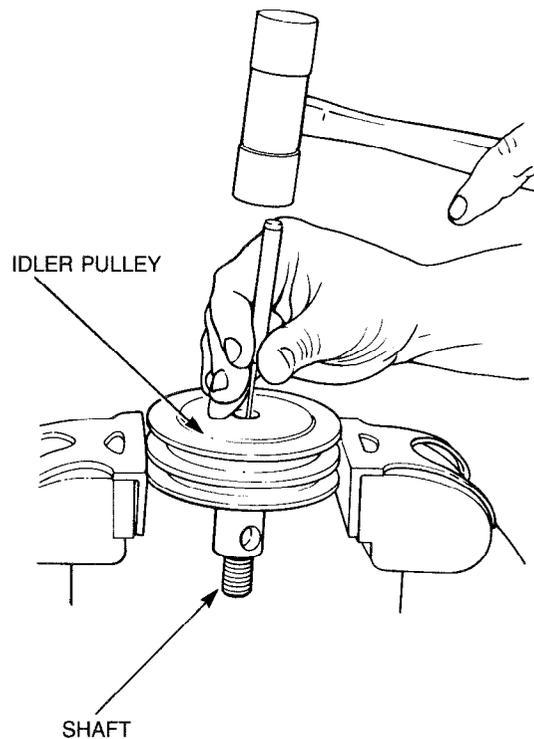

Figure 62 — Bearing and Shaft — Removal
- i. Remove the plug from the face of the idler pulley, then support the pulley in a vice and using a suitable drift and hammer, tap the bearing and shaft from the pulley (see Fig. 62).